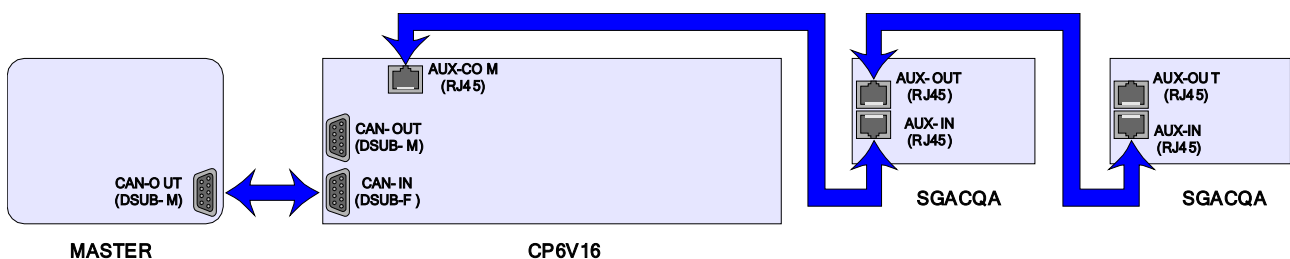

Fig. D.1 Linear weigher
- **linear weigher**, in which the peripheral CP6V16 powers up to two expansion modules (Fig. D.1)